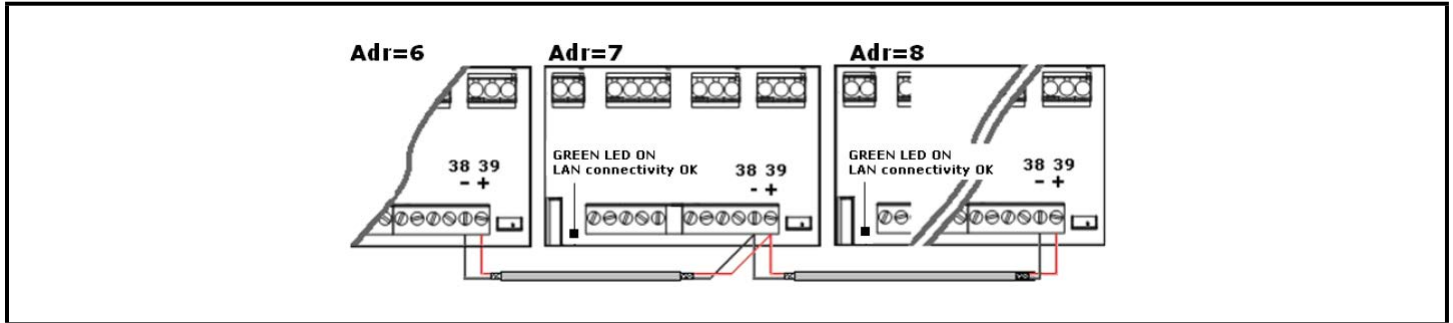

Figure 5-4 - LAN Connection
1. Connect a shielded cable between terminals 38 [-] and 39 [+] for a **maximum of eight (8) sections**.
2. The **Adr** parameter is the number that identifies each electronic board. *Address duplication is not permitted*; in this case, synchronized defrost and the communication with the monitoring system are not guaranteed (the **Adr** is also the MODBUS address). See **Figure 5-4** for an example of a properly configured LAN connection: